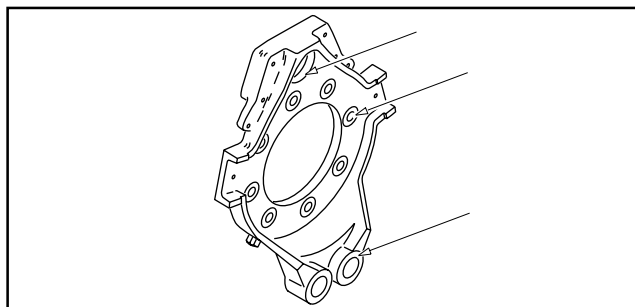

Figure 7
1. Inspect for cracked or broken surfaces on the spider at the cam, anchor pins, and mounting bolt holes. Replace any spider with visible damage. Do not attempt to weld or repair the spiders. **See Figure 7.**